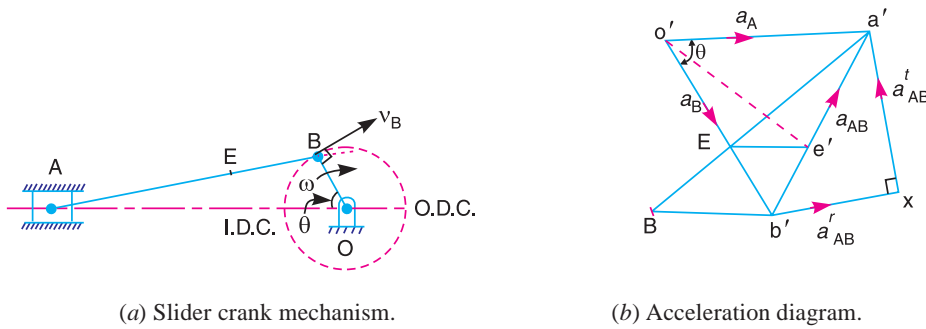

Fig. 8.3. Acceleration in the slider crank mechanism.
A slider crank mechanism is shown in Fig. 8.3 (a). Let the crank OB makes an angle θ with the inner dead centre ($I.D.C$) and rotates in a clockwise direction about the fixed point O with uniform angular velocity ω_{BO} rad/s.
The acceleration diagram, as shown in Fig. 8.3 (b), may now be drawn as discussed below:
6. The acceleration of any other point on AB such as E may be obtained by dividing the vector $b'a'$ at e' in the same ratio as E divides AB in Fig. 8.3 (a). In other words